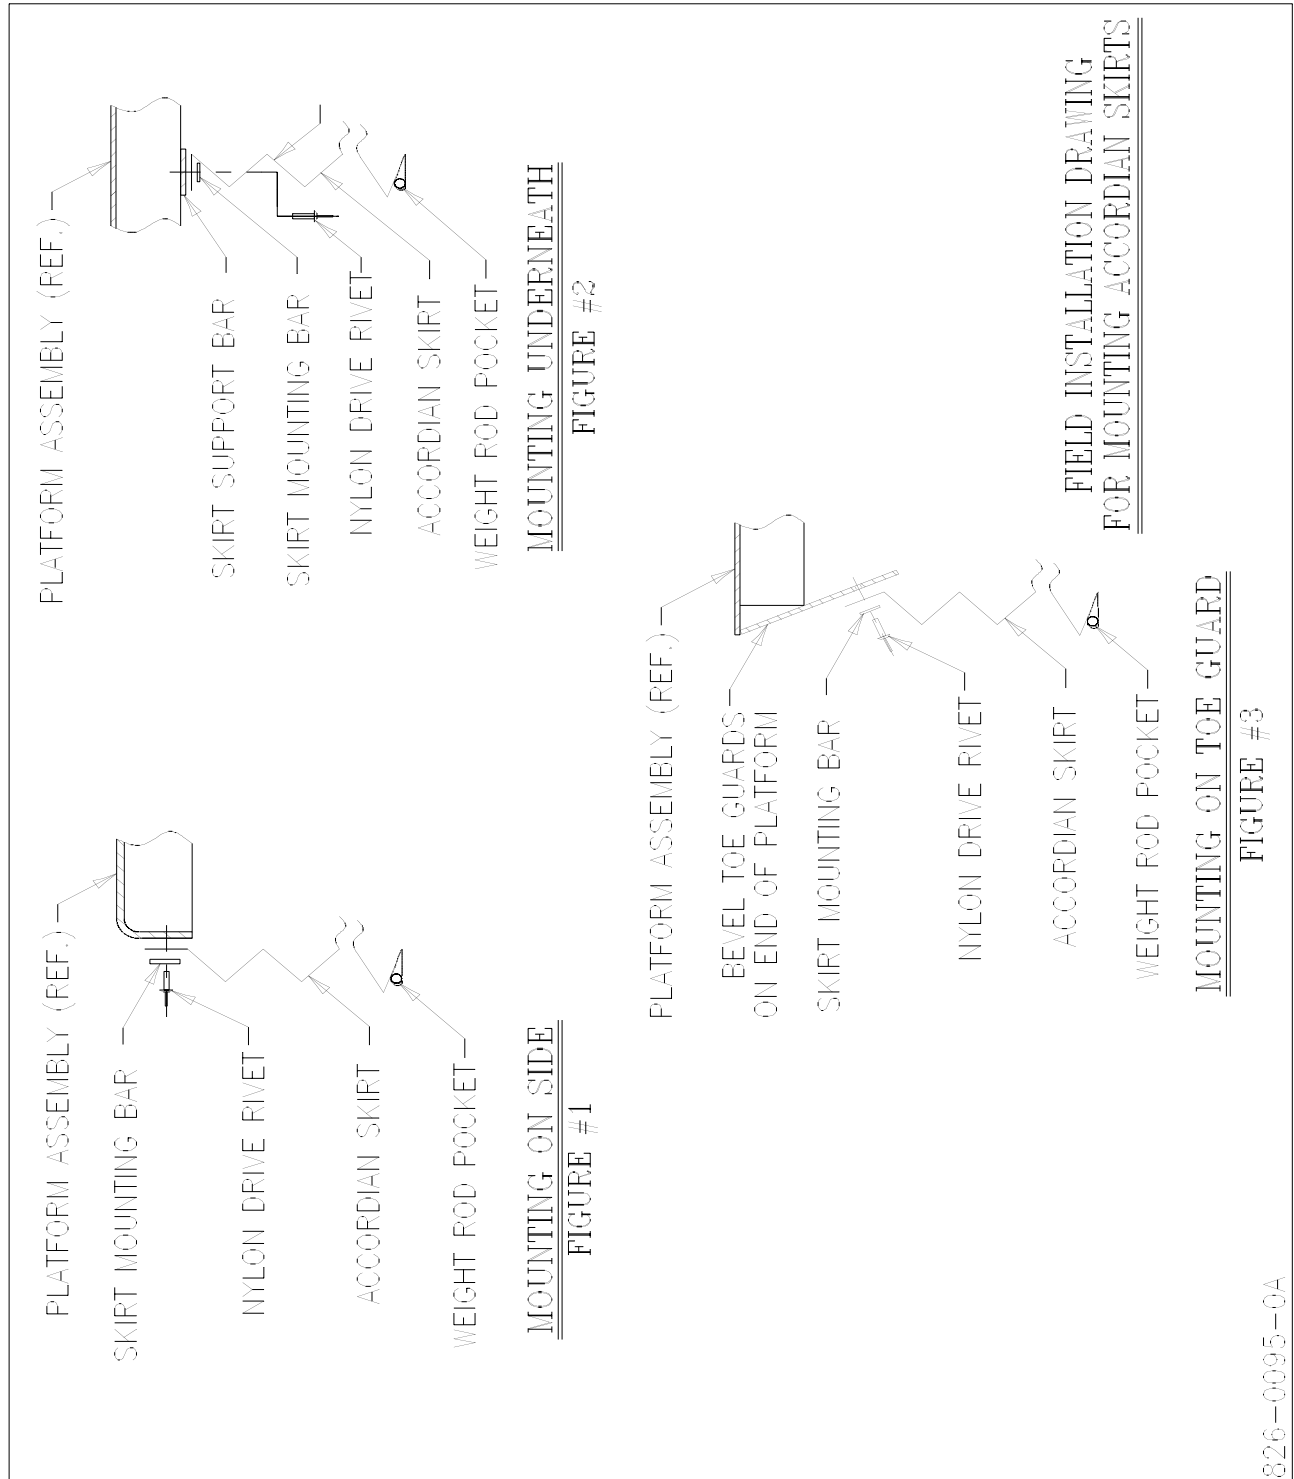

Figure 11 Field Installation Diagram for Mounting Accordion Skirts
3. See Figure 11 and select the correct mounting configuration (Number 1, 2, or 3).